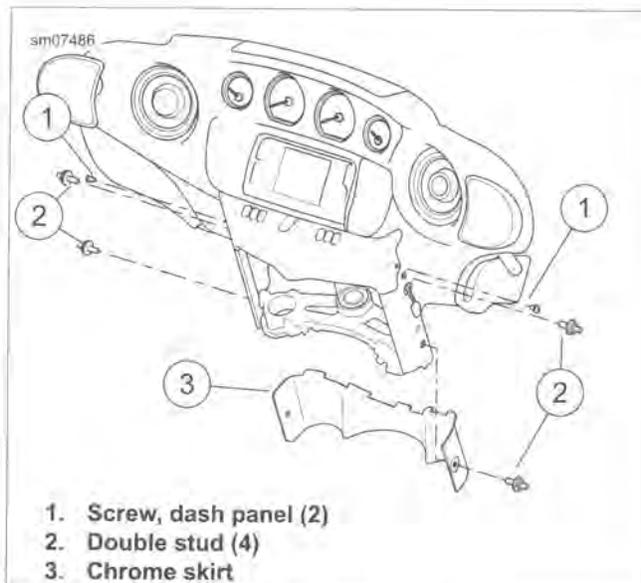

Figure 2-140. Rotate Inner Fairing
4. See Figure 2-140. Remove double studs (2).
5. Remove chrome skirt (3).